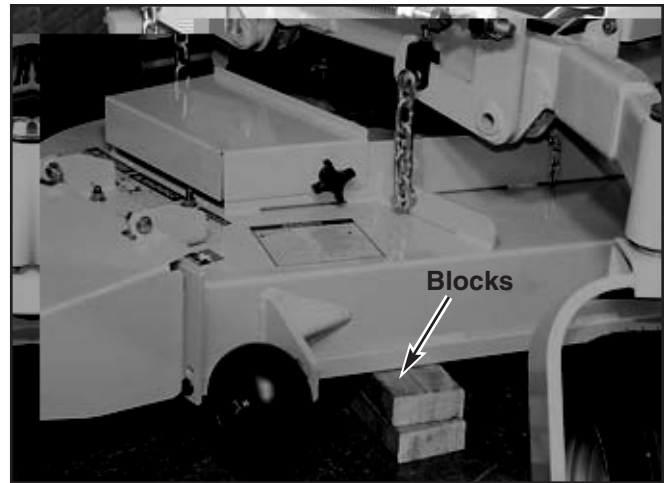

Figure 5-15
3. Raise deck and place 3" of blocking under all 4 corners of the deck (Fig. 5-15). This will set the cutting height at 3-1/4 ". **NOTE:** Back of deck will automatically be set 1/4" higher. **NOTE:** When blocking up the rear discharge decks make certain the blocks are not in the discharge opening.